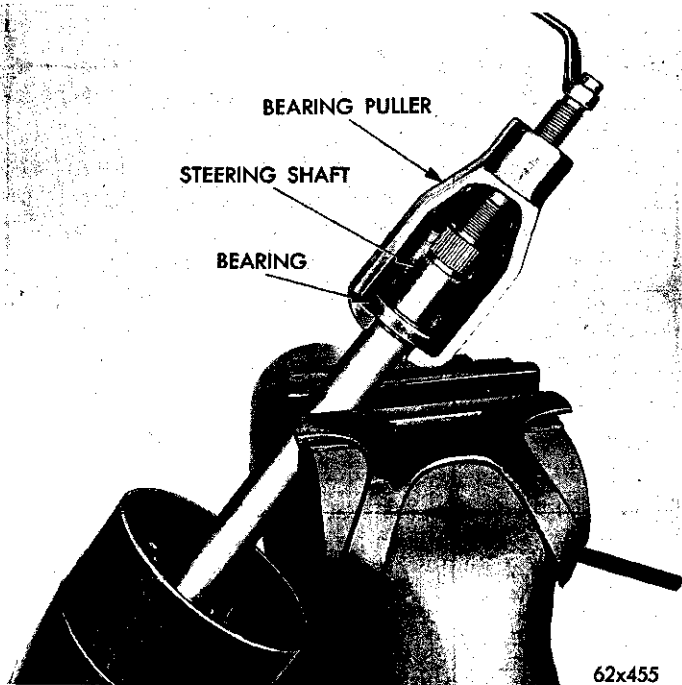

Fig. 4—Removing the Steering Shaft Bearing
(4) Exert an upward force on the steering shaft to force the steering column jacket upper bearing and insulator up out of the counterbore in the bearing housing. Remove the insulator from the bearing.
(5) Using snap ring pliers, Tool C-3128, remove the bearing upper snap ring from the upper groove in the steering shaft.
(6) Using bearing puller Tool C-3891, remove the steering column upper bearing, as shown in Figure 4.
(7) Remove the lower snap ring and slide the steering shaft and coupling assembly down, and out of the steering column jacket assembly.
(8) Remove the column jacket lower seal from the steering shaft.